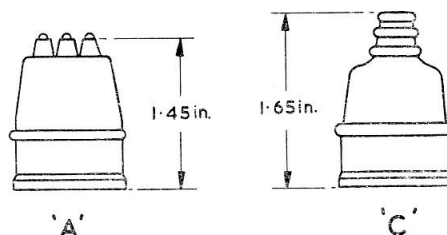

Fig. 4. Types of grommet
4. The 1241Z, Mk. 1 microswitch has no grommet provided, whereas the 1241Z, Mk. 1A microswitch is fitted with an 'A' type grommet. The suffix letter after the mark number indicates the type of grommet fitted to the microswitch (fig. 4).